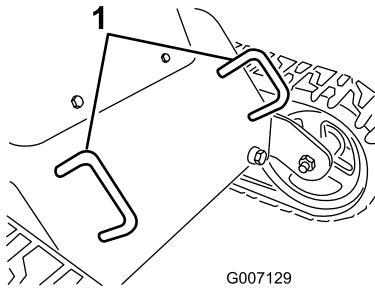
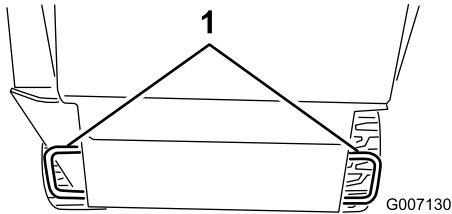

Figure 36
Figure 37
3. Secure the traction unit to the trailer with chains or straps using the tie-down/lift loops at the front and rear of the traction unit (Figure 36 and Figure 37).
You can lift the traction unit using the tie-down/lift loops as lift points (Figure 36 and Figure 37).